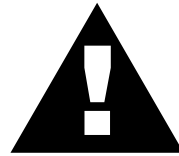

**Figure 3. Tipping (Rollover)**
This roller is **not offered** with a **Rollover Protection Structure (ROPS)**. The possibility exists of the roller tipping over causing severe bodily harm, even death, if side-side operation is used (Figure 3). **DO NOT** use this roller for side to side applications.
**NEVER!** operate the roller on side slopes (Figure 3). The possibility exist that the roller could tip over (roll over), thus causing bodily harm even death and serious damage to the equipment.